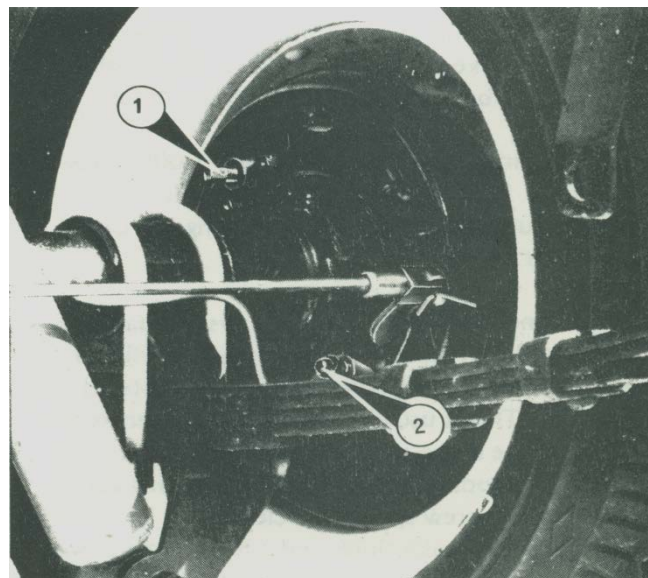

Figure 2 Rear wheel adjuster and bleed screw
Release the handbrake and whilst rotating the wheel, turn the adjuster (**Figure 2**) clockwise until the shoes touch the drum. Continue "one click" at a time until the drum is locked. Slacken the adjuster "two clicks" when the wheel should rotate freely. repeat with the other wheel.
1. Locate the bleed nipple on the nearside rear wheel brake back plate (Figure 2). Remove the dust cover and fit the rubber tube over the nipple. Immerse the other end of the tube in the brake fluid in the glass jar.